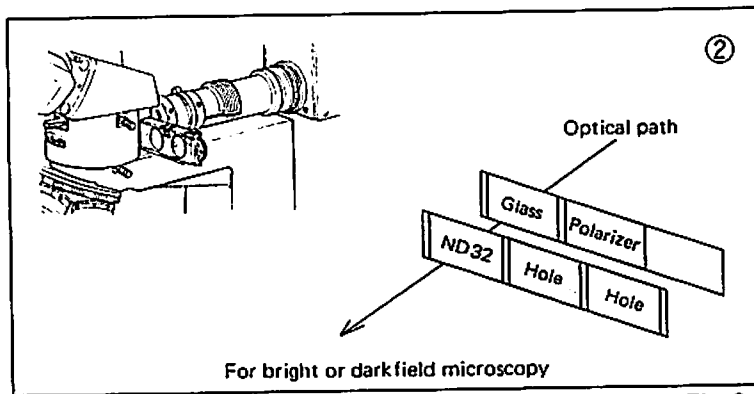

Fig. 9-2
- ② When changing over to bright-or darkfield observation, pull the polarizer slider rightward out together with the ND filter slider, until the slider stops once with a click. (Fig. 9-2)